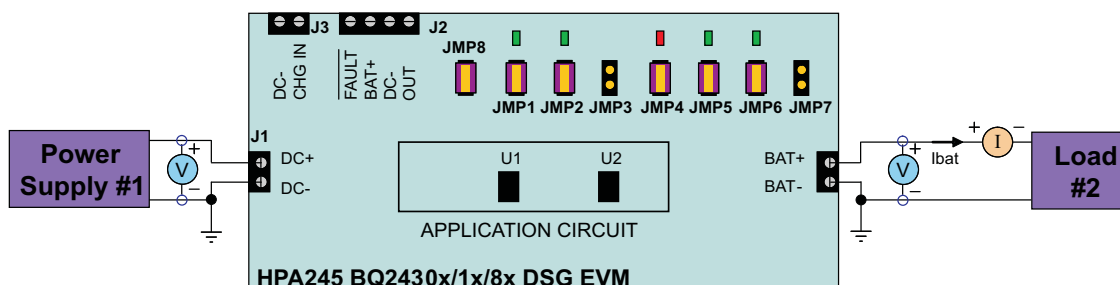

Figure 3. Chipset Test Setup for HPA245 (bq2430x/1x/8x DSG EVM)
4. After the preceding steps, the test setup for HPA245 (bq2430x/1x/8x DSG EVM) is shown in Figure 3.